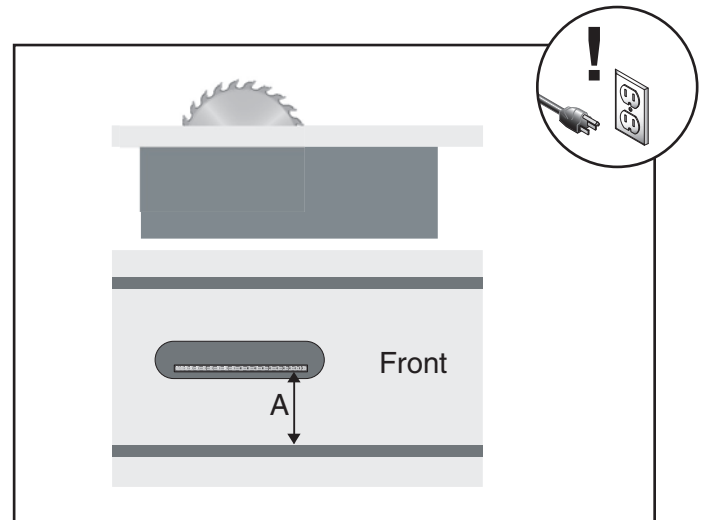

Figure 59. 90° blade parallelism measurement.
3. Tilt the blade to 90°. Using an adjustable square, measure the distance (A) between the miter slot and the front of the blade as shown in **Figure 59**.